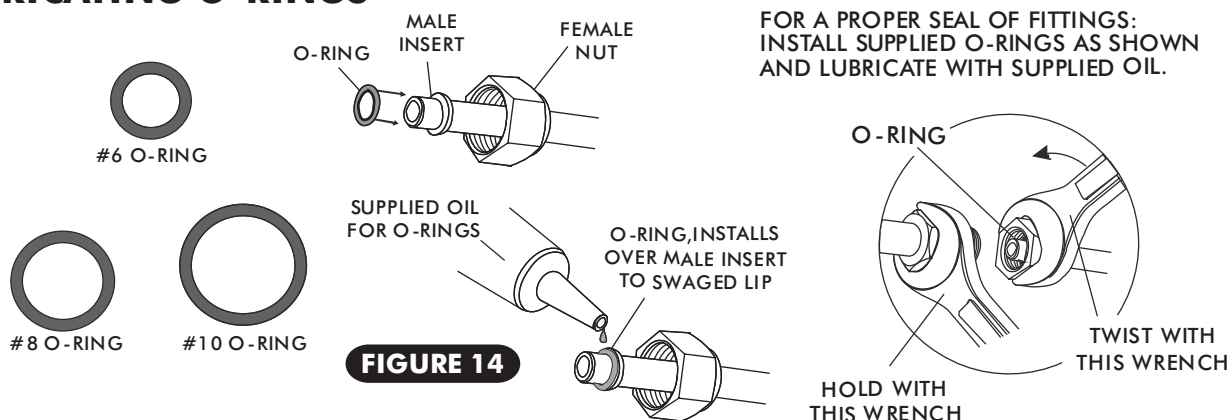
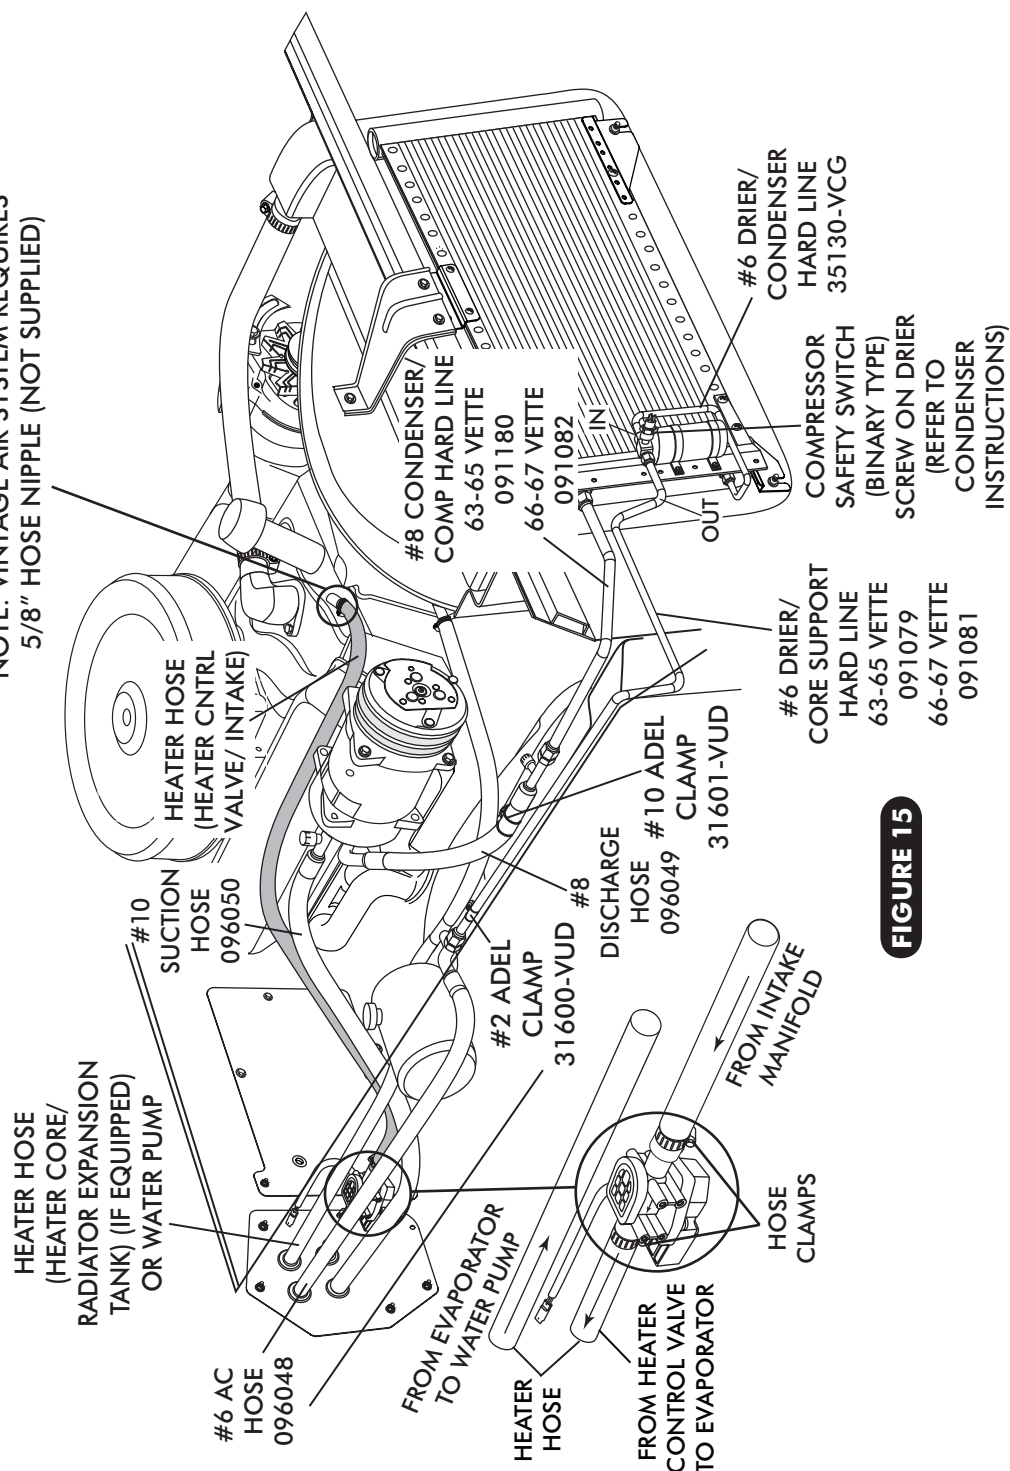

FIGURE 14
FIGURE 15
- ☐ ON A WORK BENCH INSTALL (2) HEATER FITTINGS WITH PROPERLY LUBRICATED O-RINGS. (SEE FIGURE 14, PAGE 14, AND FIGURE 8, PAGE 11.) FOR HEATER HOSE ROUTING SEE PAGE 12, 14 AND PAGE 15.
- ☐ LOCATE THE #8 COMPRESSOR A/C HOSE. LUBRICATE (2) #8 O-RINGS (SEE FIGURE 14, ABOVE) AND CONNECT THE 135° FEMALE FITTING TO THE #8 DISCHARGE PORT ON THE COMPRESSOR. ROUTE THE STRAIGHT FEMALE FITTING w/ 134a SERVICE PORT TO THE #8 CONDENSER HARDLINE COMING OVER CORE SUPPORT. SEE FIGURE 15 PAGE 15. TIGHTEN EACH FITTING CONNECTION AS SHOWN IN FIGURE 14 ABOVE.
- ☐ LOCATE THE #10 COMPRESSOR A/C HOSE. LUBRICATE (2) #10 O-RINGS (SEE FIGURE 14, ABOVE) AND CONNECT THE #10 STRAIGHT FEMALE FITTING w/134a SERVICE PORT TO THE #10 SUCTION PORT ON THE COMPRESSOR. ROUTE THE 90° FEMALE FITTING TO THE #10 EVAPORATOR. SEE FIGURE 10, PAGE 12 AND FIGURE 15, PAGE 15. TIGHTEN EACH FITTING CONNECTION AS SHOWN IN 14 ABOVE.
- ☐ LOCATE THE #6 EVAPORATOR A/C HOSE. LUBRICATE (2) #6 O-RINGS (SEE FIGURE 14, ABOVE) AND CONNECT THE 90° FEMALE FITTING TO THE DRIER HARDLINE. ROUTE THE 90° FEMALE FITTING TO THE #6 EVAPORATOR. SEE FIGURE 9, PAGE 12 AND FIGURE 15, PAGE 15. TIGHTEN EACH FITTING CONNECTION AS SHOWN IN FIGURE 14, ABOVE.
- ROUTE A HEATER HOSE FROM THE RADIATOR EXPANSION TANK (IF EQUIPPED) OR WATER PUMP TO THE TOP HEATER FITTING OF HEATER CORE AS SHOWN IN FIGURE 9, PAGE 12 AND FIGURE 15 BELOW. SECURE USING HOSE CLAMPS. **NOTE: OEM RADIATOR EXPANSION TANK OUTLET IS 3/4". (OPTION 1) USE GATES HEATER HOSE PART # 18084 3/4" x 5/8" x 60" (REFER TO PAGE 12) FOR HEATER HOSE MODIFICATION. (OPTION 2) 3/4" x 5/8" REDUCER FITTING IS REQUIRED (NOT SUPPLIED)**
- ROUTE A HEATER HOSE FROM THE INTAKE TO THE BOTTOM HEATER FITTING OF HEATER CORE AS SHOWN IN FIGURE 9, PAGE 12 AND FIGURE 15, BELOW. INSTALL HEATER CONTROL VALVE IN-LINE WITH INTAKE MANIFOLD (PRESSURE SIDE) HEATER HOSE, SECURE USING HOSE CLAMPS AS SHOWN IN FIGURE 15, BELOW. **NOTE PROPER FLOW DIRECTION.**